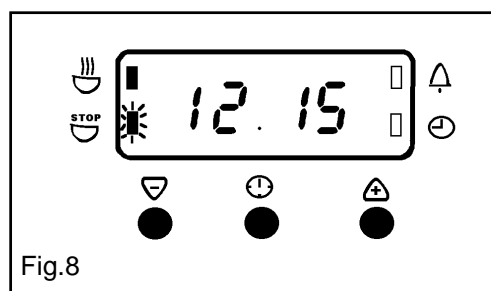

Fig.8
- v) To set the 'End Time'. Press the Selector Control button until the 'End Time' indicator neon () flashes. Press the increase control (+) until the required stop time is displayed, e.g. 12.15 p.m. as Fig. 8. If necessary press the decrease control (-) until the correct time interval is achieved.